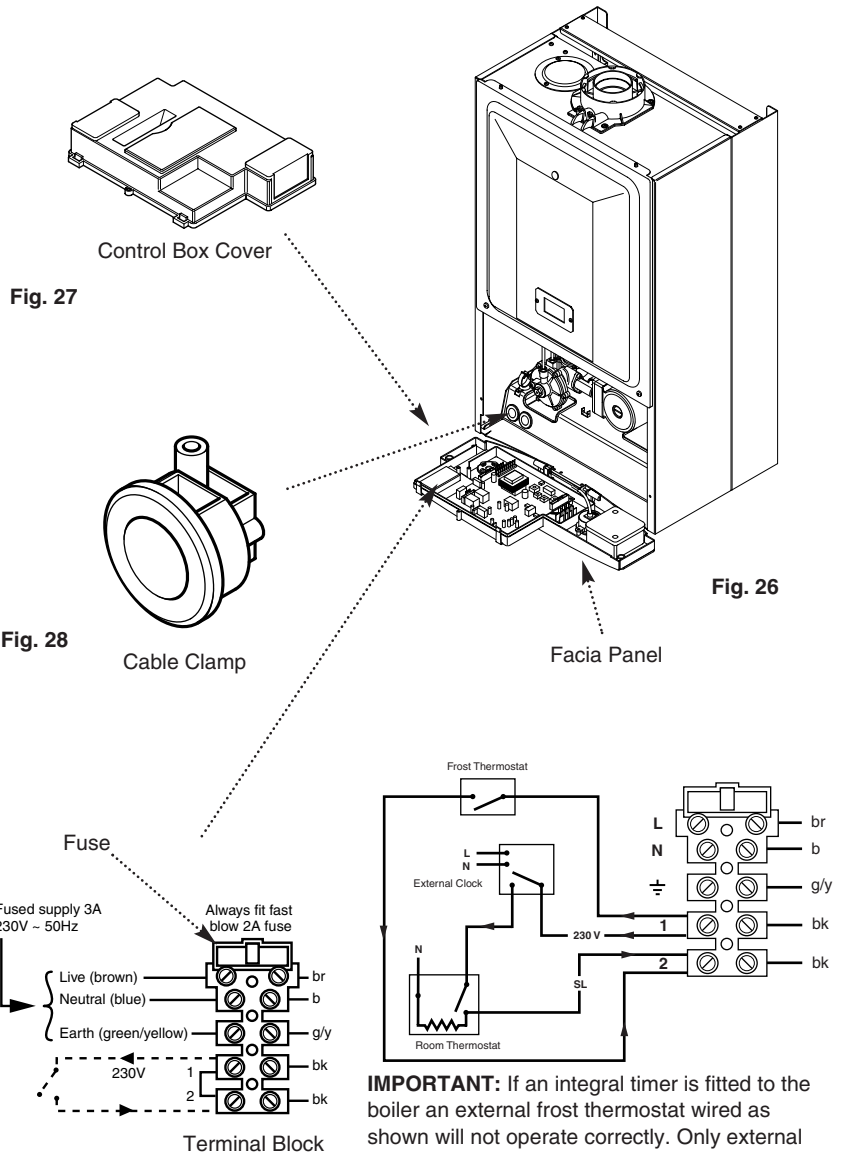

Fig. 29
7. To connect external control(s) remove the link between terminals 1 & 2. The 230V supply at terminal 1 can be connected to the external control. The switched output from the external control must be connected to terminal 2. (Fig. 29).
NOTE: If the room thermostat being used incorporates an anticipator it **MUST** be wired as shown in Fig. 29